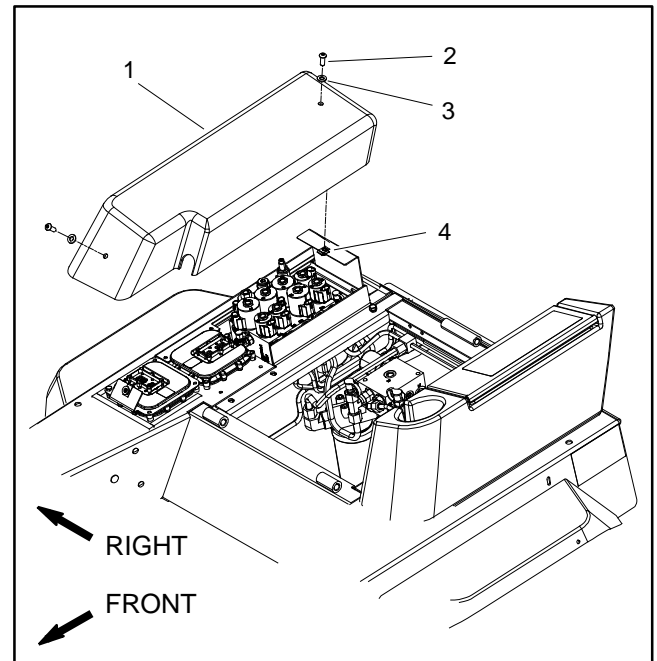

Figure 30
1. Make sure hydraulic oil is at normal operating temperature by operating the machine under load for approximately ten (10) minutes. Make sure the hydraulic tank is full.
3. Remove controller cover to gain access to lift/lower manifold (Fig. 30).